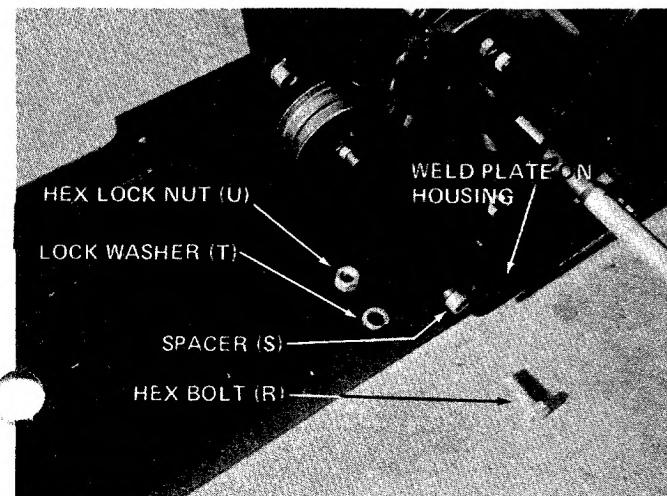

FIGURE 10
- Assemble the front support channel to the snow thrower housing. Place the front support channel between weld plates on housing. On one side, place spacers (S) between channel and housing and secure with hex bolts (R), lock washers (T) and hex lock nuts (W). See figure 10. Just start nuts on by hand. Using a drift pin or punch on by hand. Using a drift pin or punch on the other side, line up spacers (S) between channel and housing and secure in same manner. An adjustable wrench and a 3/4" wrench is required. Tighten securely.